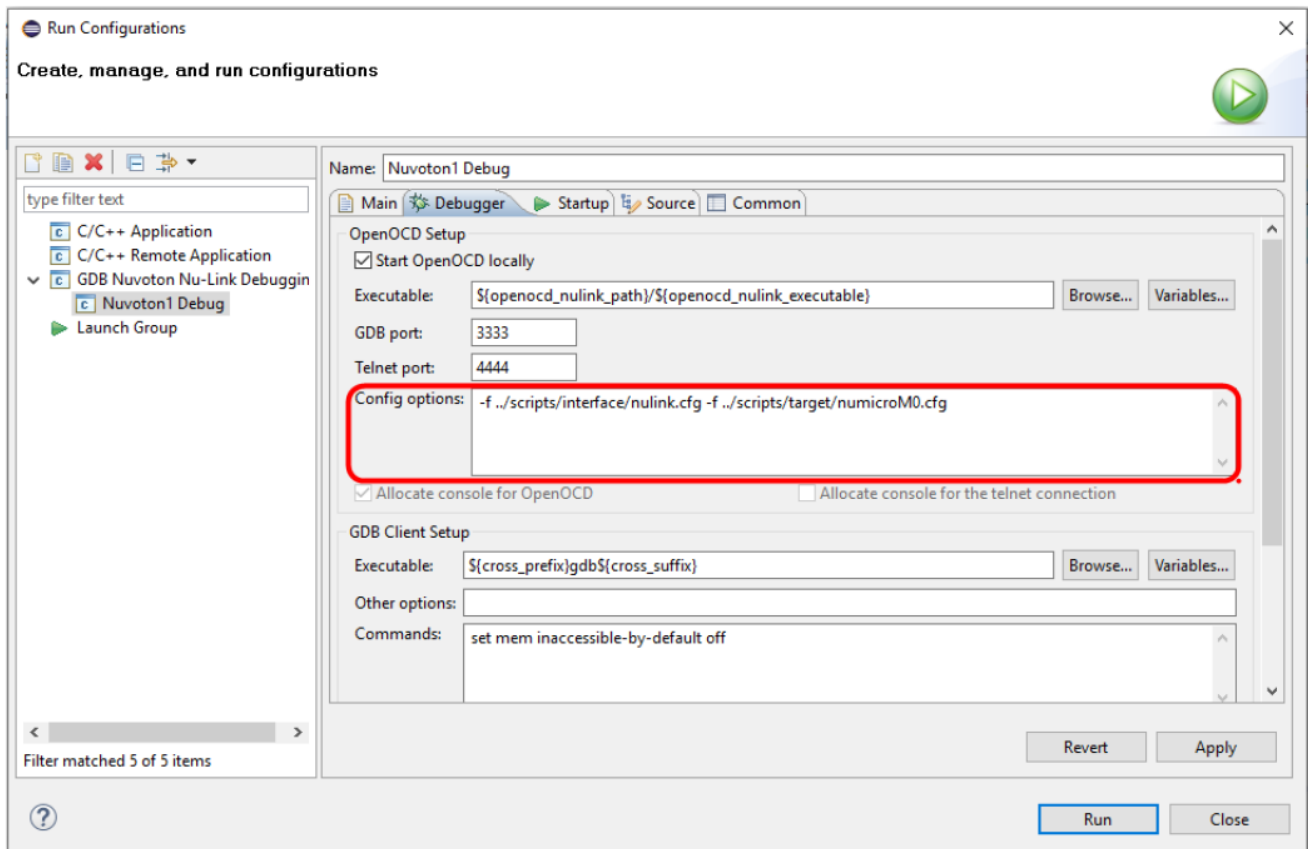

Figure 4-22 Configuring the Debugger Tab
Step 4: The Debugger tab is used to provide the OpenOCD and GDB Client setup. OpenOCD requires correct configuration files to know how to work with adapters and target chips. The configuration files are specified in the Config options field. Nuvoton's adapter is Nu-Link, which uses the interface configuration file named nulink.cfg. In addition, Nuvoton has three different ARM families, such as M0, M4, and M23. The corresponding target configuration files are numicroM0.cfg, numicroM4.cfg, and numicroM23.cfg. For M0 2nd development, the target configuration file would be numicroM0_NS.cfg, as shown in Figure 4-22.